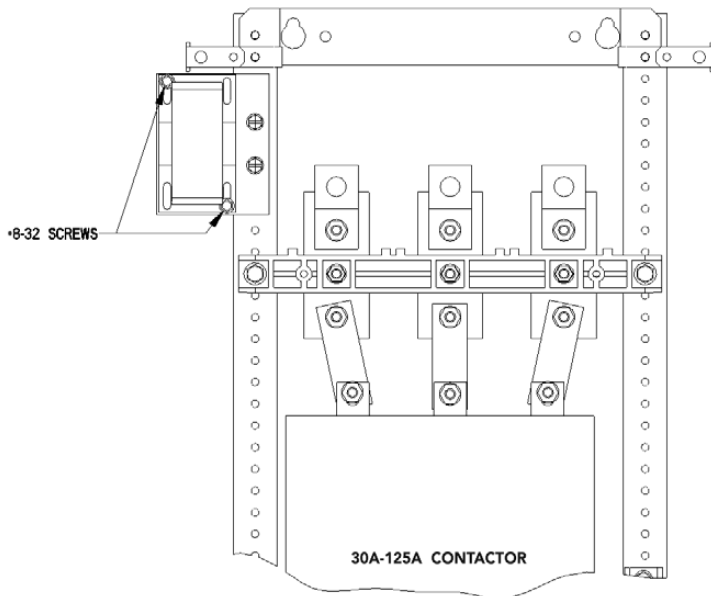
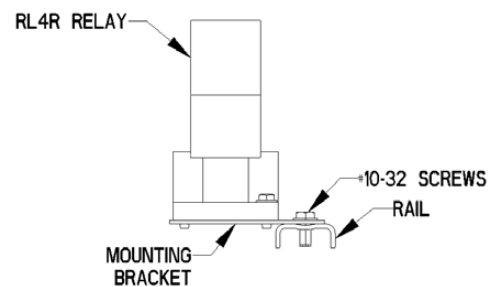
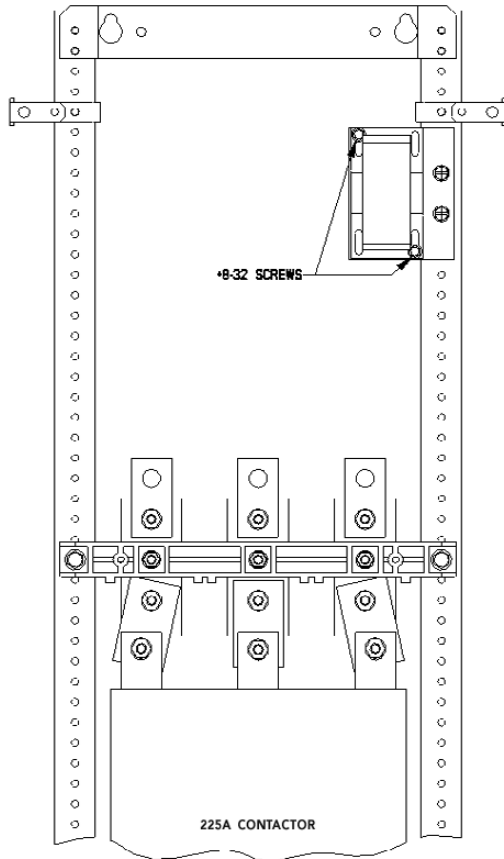
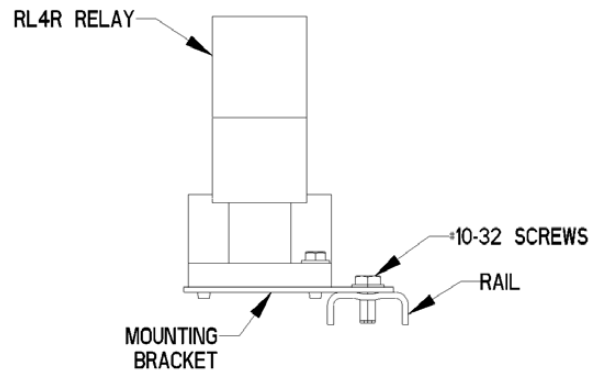

Figure 1
Figure 1a
Figure 2
Figure 2a
2. Position mounting bracket in available location on rail with relay in outboard position as shown in Figure 1 and secure with #10-32 screws provided, as shown in Figure 1a.
2. Position mounting bracket in available location on rail with relay in inboard position as shown in Figure 2, or if preferred, in outboard position as shown in Figure 1. Secure with #10-32 screws provided, as shown in Figure 2a.